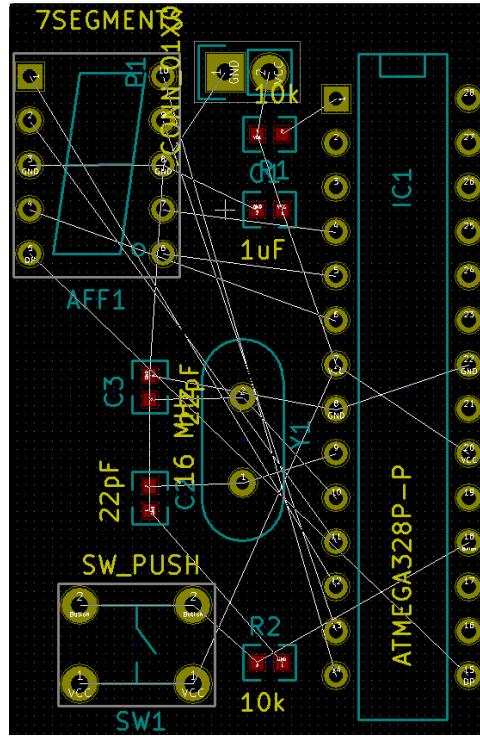

Figure 25: Component arrangement for the Arduino dice PCB.
- c) Let’s tentatively arrange the components as shown in Fig. 25.